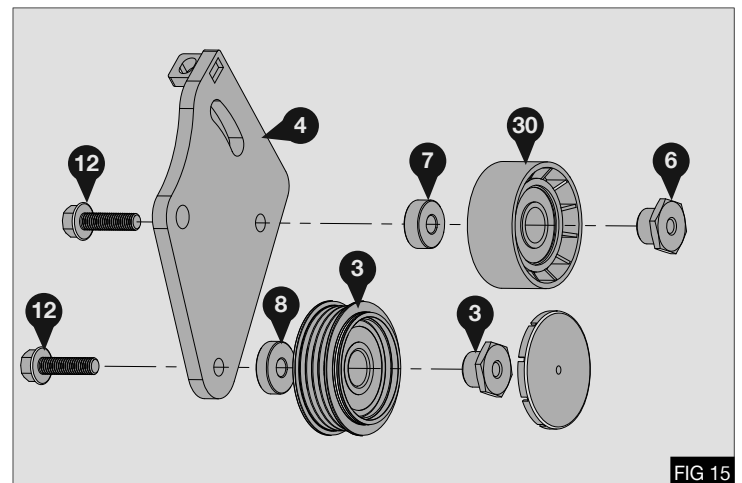

FIG 15
3. Fit back idler pulley (30) to tensioner plate (4) using M8 x 30 flange bolt (12) spacer (7) and pulley nut (6) - Fig 15
4. Fit grooved idle pulley (3) to tensioner plate (4) using M8 x 30 flange bolt (12) spacer (8) and pulley nut (6) Torque bolt and install pulley cap - Fig 15
5. Torque bolts (12) to 29Nm / 21.4Lbft
**Caution:** Ensure spacers (7) and (8) are installed in the correct locations.